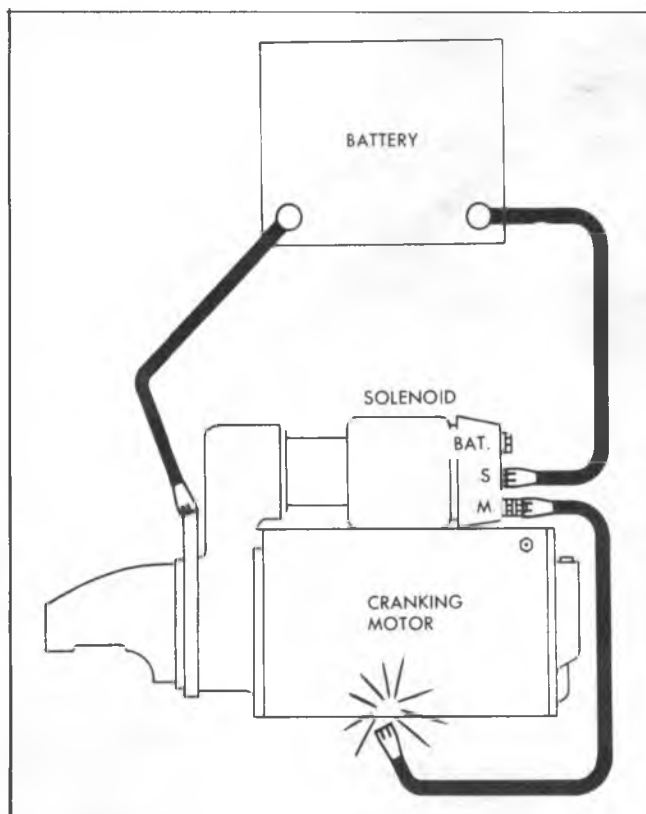

Fig. 11S--Circuit for Checking Pinion Clearance
1. Connect a battery, of the same voltage as the solenoid, from the solenoid switch terminal to the solenoid frame or ground terminal (fig. 11S).